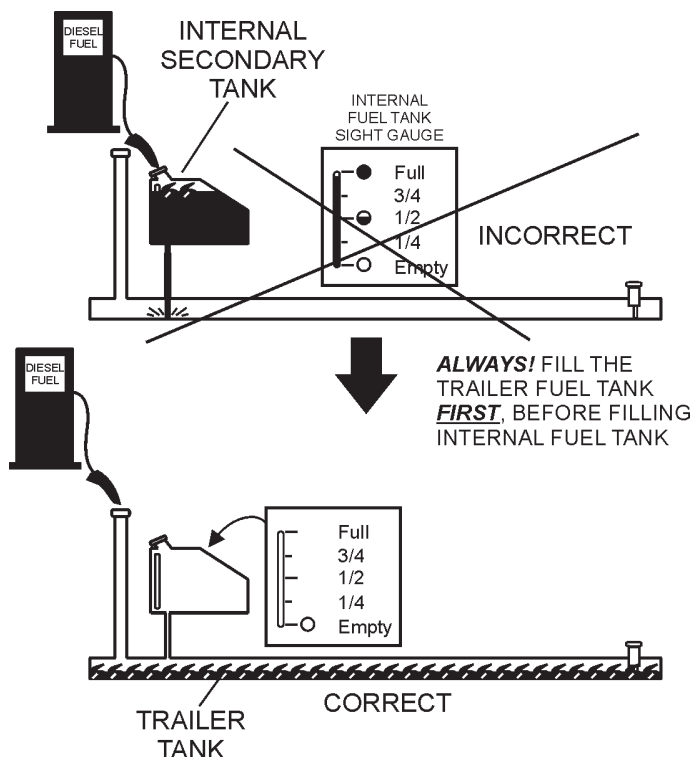

**Figure 33. Only Fill on Level Ground**
1. **Level Tanks** – make sure fuel cells are level with the ground. Failure to do so will cause fuel to spill from the tank before reaching full capacity. See Figure 33.